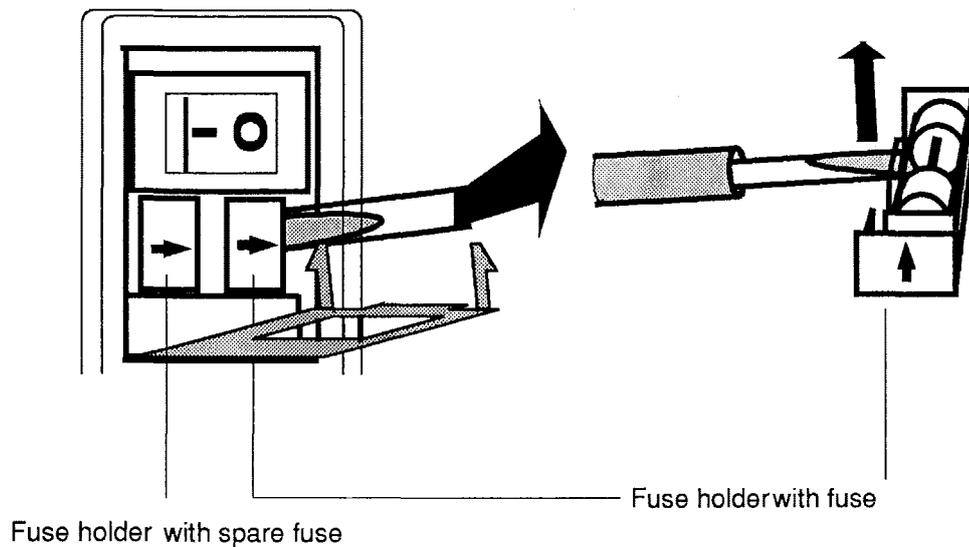

Fig. 8-2 Removing the fuse holder and fuse
2. Remove the fuse holder (see Fig. 8-2).